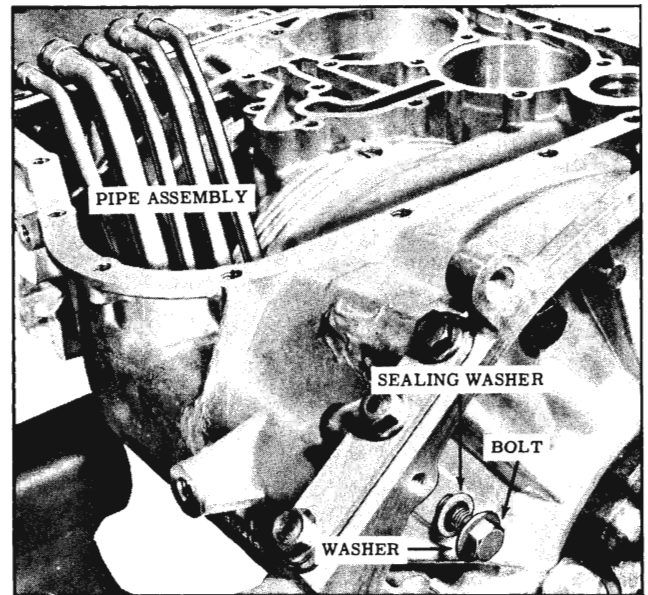

Fig. 3-26 Pipe Assembly Removal
17. Remove the pipe assembly attaching bolt, washer and seal from front of case cover and withdraw the pipe assembly and seals from transmission. Multiple seals may have remained in transmission. (Fig. 3-26)